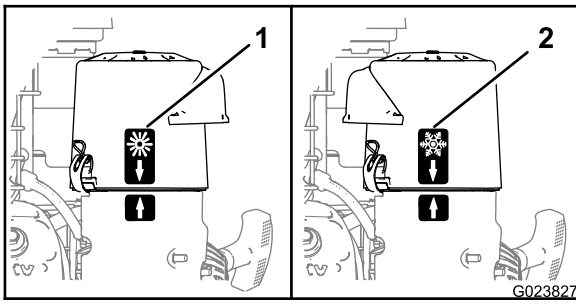

Figure 28
- When operating in a **cold ambient air condition** (cold air temperature and humidity)—position the air-cleaner cover with snowflake decal facing out (Figure 28).
- When operating in a **normal ambient air condition**—position the air-cleaner cover with sun decal facing out (Figure 28).